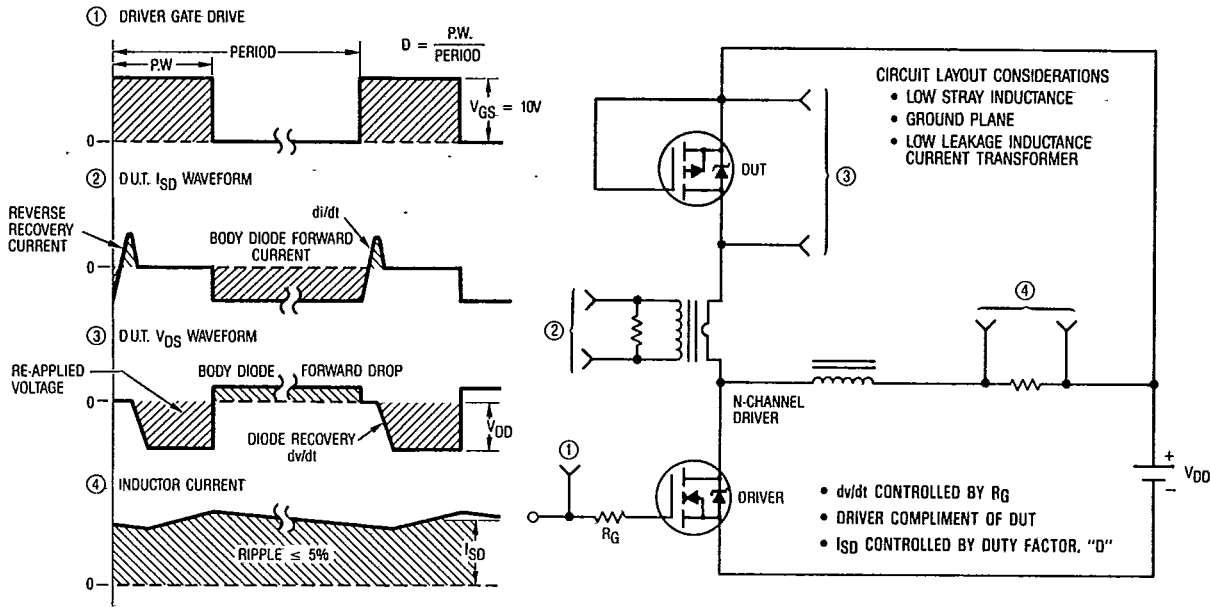

Fig. 17 — Peak Diode Recovery dv/dt Test Circuit
| dv/dt Peak Diode recovery dv/dt (3) | 5.8 (See Fig. 17) | | V/ns |